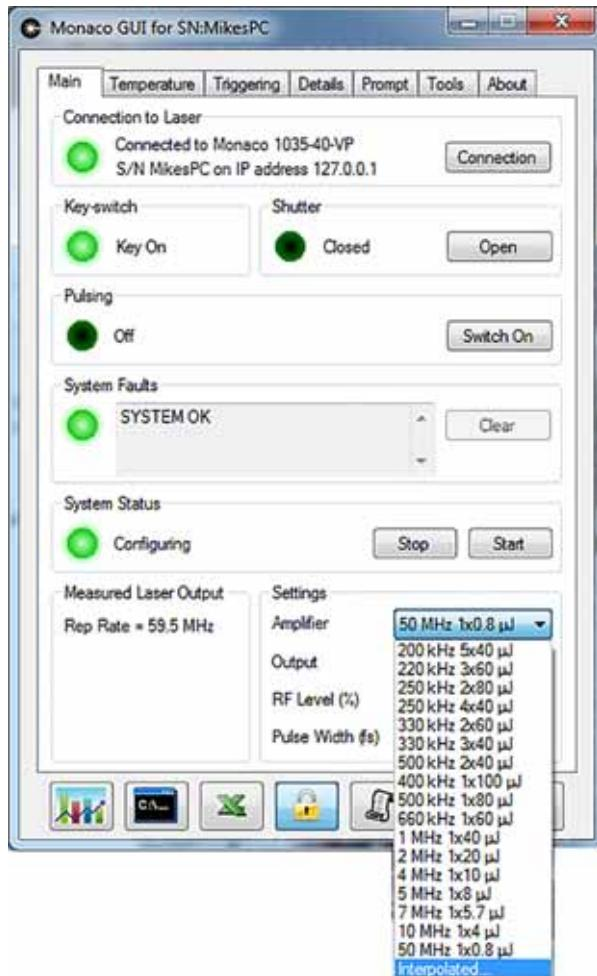

Figure 6-3. Amplifier Rep Rate Drop Down Menu
Amplifier Repetition Rate (w): The SET command allows the user to configure the laser’s amplifier repetition rate value. For a repetition rate divisor of one (RRD=1) this will also be the laser’s output pulse/seeder burst repetition rate (RR). Values for w (in kHz) must be chosen from those in the GUI Amplifier Rep Rate drop down menu (see Figure 6-3). For example, for the laser shown a value of 1000 could be entered for w in the SET command to configure the laser for 1MHz operation, “SET=1000”. However “SET=600” could not be entered because 600kHz is not a repetition rate value available from the drop down menu. The only exception to this is for lasers with the Interpolated mode option where repetition rates between 1-4MHz can be entered.
Number of Pulses per Seeder Burst (z): The SET command also allows the user to configure the number of pulses in each seeder burst from the laser (see "Seeder Burst Mode" on page 4-14). Note that $z=1$ (one pulse in each seeder burst) is simply a continuous stream of single pulses. If the seeder burst value is not used in the SET command, it is assumed to be set to 1. Values for the amplifier repetition rate (w) and for z must be chosen from those in the GUI Amplifier Rep Rate drop down menu (see Figure 6-3). For example in the laser shown, "SET=500,,2" could be entered to configure the laser for 500kHz repetition rate with 2 pulses per seeder burst, but "SET=400,,2" is not an available option.